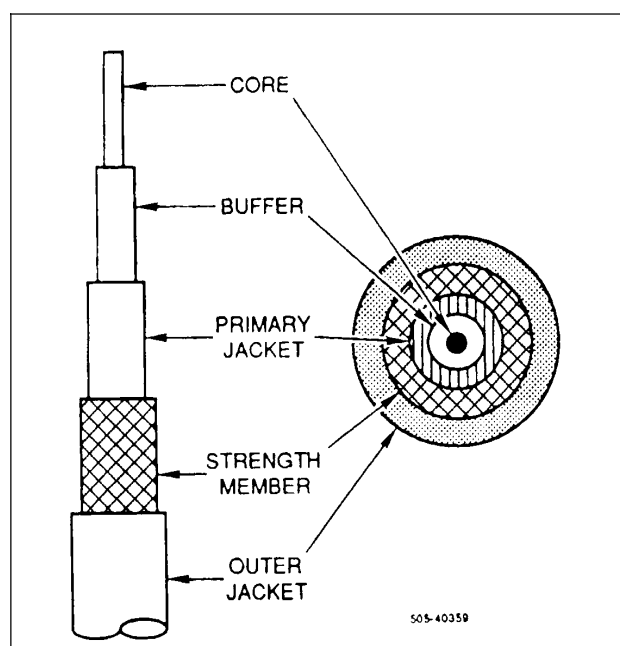
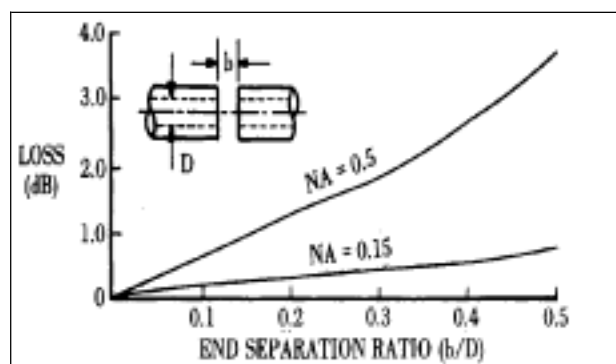
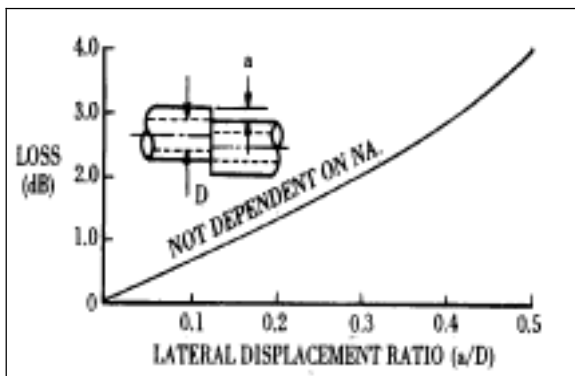
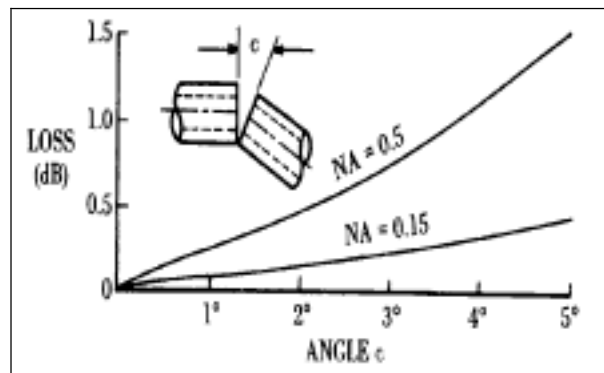

Figure 19-1 Typical Fibre Optic Cable Construction
Figure 19-2 Loss Due To End Separation
Figure 19-3 Loss Due To Lateral Displacement
Figure 19-4 Loss Due To Angular Displacement
- c. **Fibre Optic Cable.** The fibre optic cable (Figure 19-1) provides a suitable medium for transfer of the lightwave. It consists of an optical fibre, which is a cylinder or core of transparent dielectric, usually plastic or glass, with a high refractive index, surrounded by a second dielectric with a lower refractive index, called the cladding. Due to the fragile nature of these fibres, they are covered with a protective cover or buffer and a plastic jacket. A further strength member of Kevlar or fibreglass and an outer jacket are often added. The cable must be interconnected with the least possible loss to signal transmission. This loss can be caused by End Separation (Figure 19-2), Lateral Displacement (Figure 19-3) or Angular Displacement (Figure 19-4).